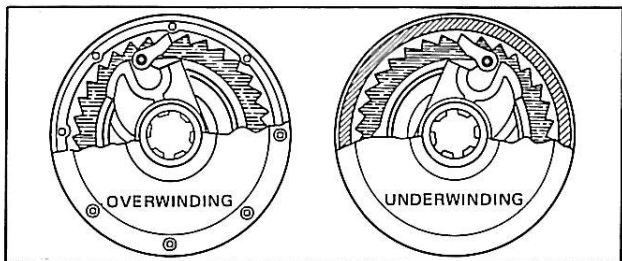

Figure 14. Automatic Brake (Optional) Overwind and Underwind Arrangement
b. AUTOMATIC BRAKE (Optional). (See Figure 14.)
(See Figure 14.)